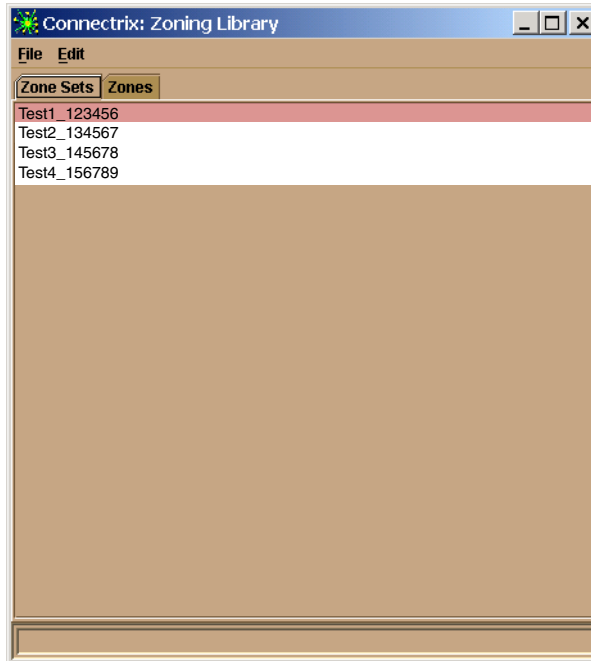
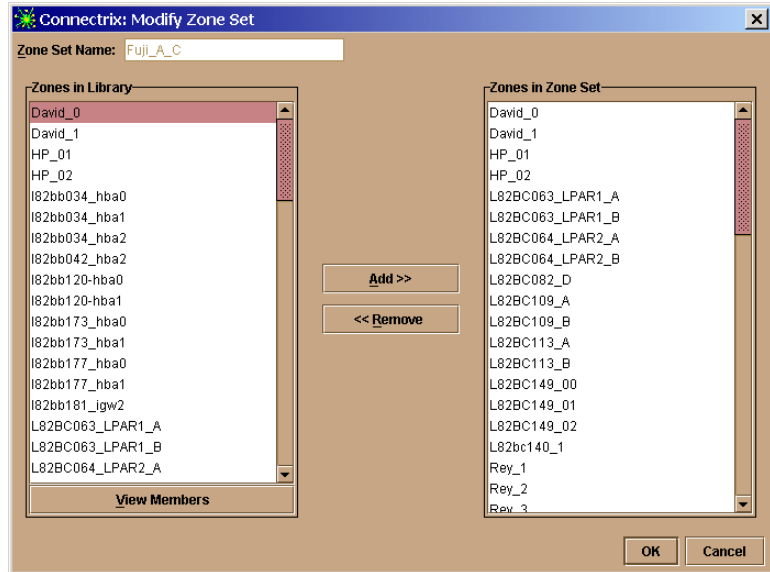

Figure 5-8 Zoning Library
Figure 5-14 Modify Zone Set Window
This displays the Zoning Library window (shown in Figure 5-8 on page 5-20).
This displays the Zoning Library window (shown in Figure 5-8 on page 5-20), which contains all the defined zone sets.
To display defined zones and zone sets, select **Zoning Library** from the Connectrix Manager's Configure menu. This displays a window similar to Figure 5-8, which lists all defined zone sets.
2. On the Zoning Library window (shown in Figure 5-8 on page 5-20), click the **Zones** tab.
2. On the Zoning Library window (shown in Figure 5-8 on page 5-20), click the zone set you want to copy.
2. On the Zoning Library window (shown in Figure 5-8 on page 5-20), display the **Modify zone set** window (Figure 5-14 on page 5-28) in either of these ways:
2. On the Zoning Library window (shown in Figure 5-8 on page 5-20), display a Rename Zone Set dialog box in either of these ways: